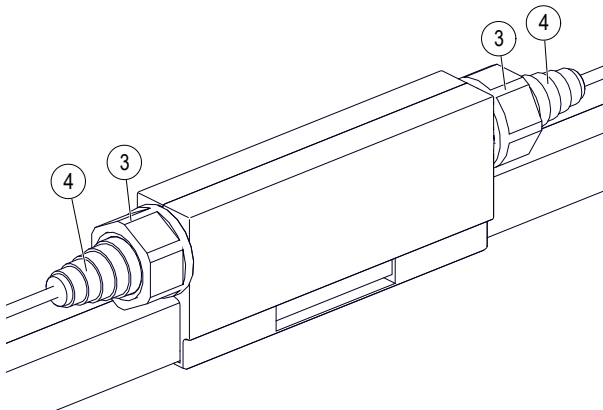

Fig. 35: Grommet (item 4) and cap nut (item 3) are mounted
→ Cut open the grommet (item 4) to be able to thread the cold connection cable. Mount the cap nut (item 3) and the grommet (item 4) (see Fig. 35).